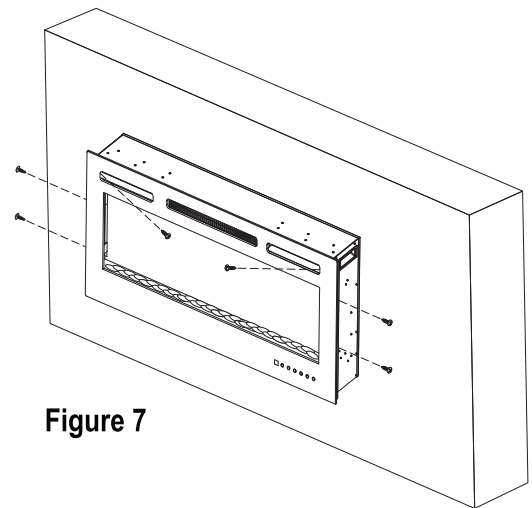

Figure 7
- I. With assistance, reinstall the front glass using the screws that were removed during Step C. Ensure the glass is fully secured and stable before operating the unit. [Figure 7]